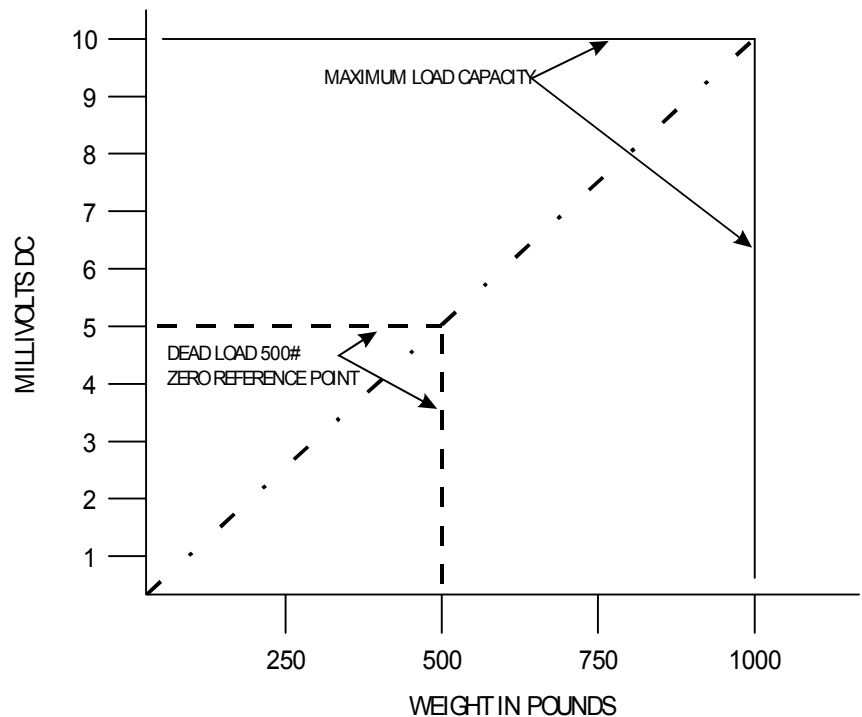

FIG. 6-2 MILLIVOLTS/WEIGHT SCALE
- A zero reference point will vary from system to system depending on the "Dead Load" of the vessel. "Dead Load" is the weight of the vessel and appurtenances only, with no product loaded. In our example we will assume the dead load to be 500 lbs. (See Fig. 6-2)